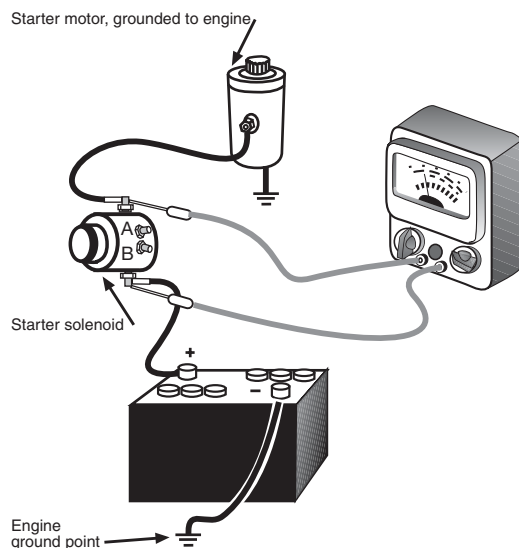

Figure 6-10. Starter circuit voltage-drop test—Step 2.
**Step 2.** Now it's time to check the voltage drop through the solenoid. It's important that you don't connect the voltmeter leads as shown in Figure 6-10 until the engine is cranking. If you connect up when the engine isn't being cranked, you risk damage to your voltmeter.